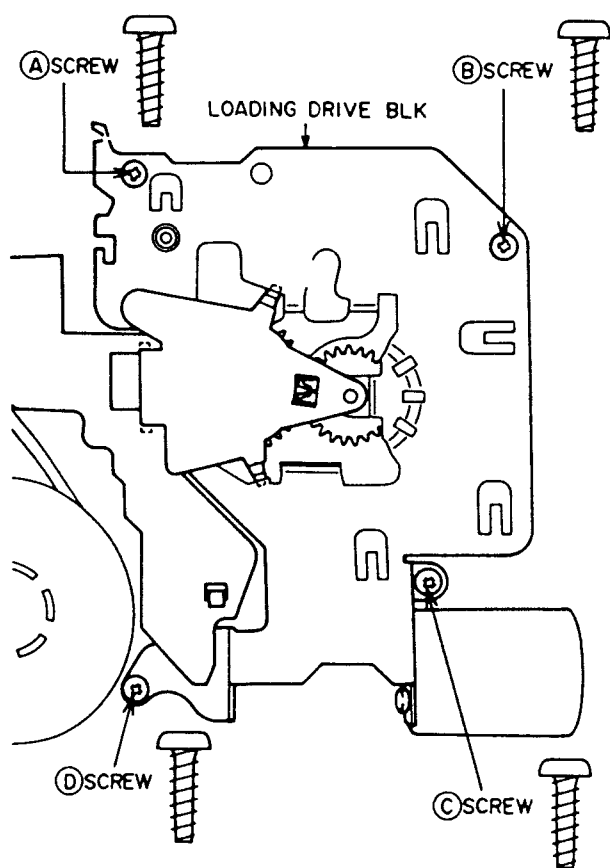

Fig. 3-7
- 3) Remove the ①, ②, ③ and ④ screws, then remove the LOADING DRIVE BLK as shown in Fig. 3-7.